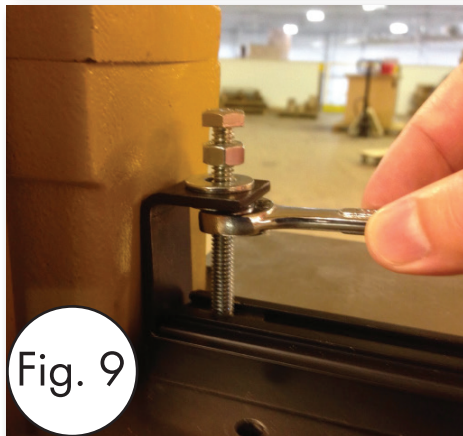

Fig. 9
4. Adjust the lower hex nut up until the clamp grips the bottom of the saw table (Fig. 9).